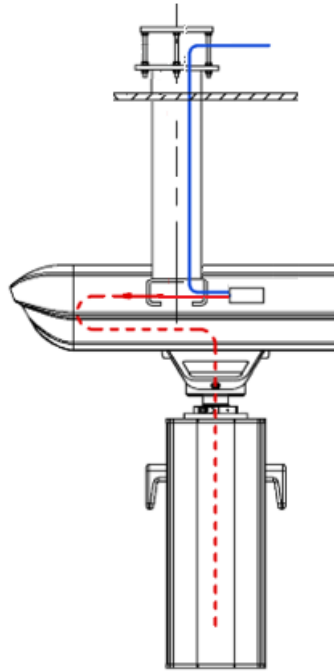

Fig. 20 Routing of gas hoses and evacuation of anaesthetic gases.
- Release the 4 M8 socket head cap screws ① that secure the service head.
- Carefully pass the new hoses ① through the pendant system and onto the interface plate as shown in Figure 20.